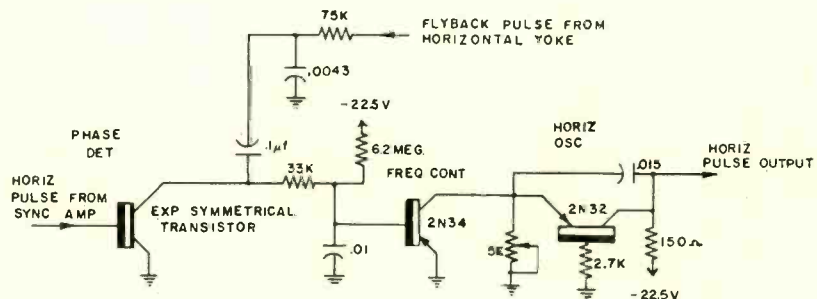

Fig. 7—The horizontal a.f.c. system depends on a symmetrical transistor.
a.f.c. (Fig. 7). These circuits make use of the symmetrical characteristics of individual junction transistors.